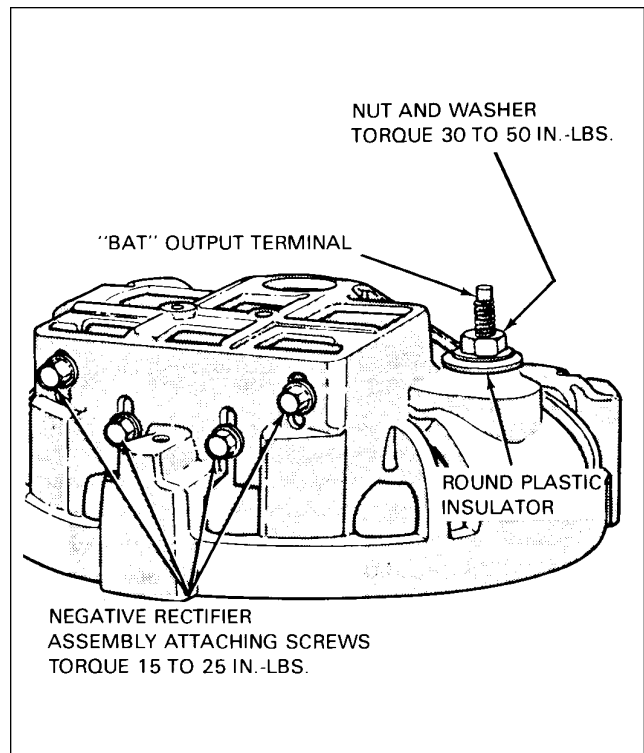

Figure 24-25. Installation of Battery Output Insulator
12. Turn end shield over and install round plastic insulator over the battery terminal with the flat side up. Install nut and washer and torque 30 to 50 inch-pounds. (Refer to Figure 24-25.)